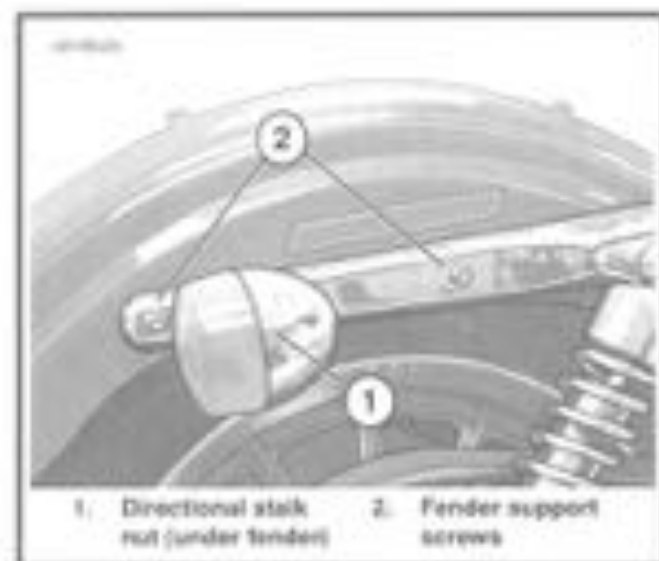

Figure 2-90. Rear Fender, Strut Cover and Directional Lamp Assembly
3. See Figure 2-90. Remove rear directional stalk nut and T-spacer from inside rear fender (both sides). Remove two fender support nuts, screws and T-spacers (both sides). Move chrome steel strut covers away from rear fender.
- See Figure 2-90. Slide directional stalk stud through holes in strut cover, strut and fender. Install nut.